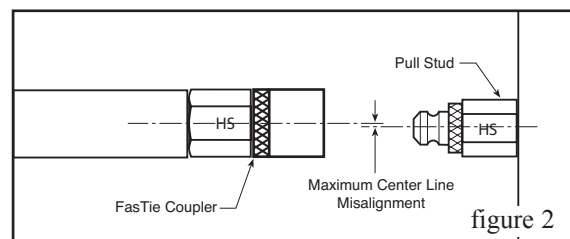

figure 2
Per figure 2, maximum center line misalignment per coupler outside diameter is as follows.
13. Maximum allowable center-to-center misalignment of coupler and pull stud is below: (see figure 2)
10. Maximum allowable center-to-center misalignment of coupler and pull stud is below: (see figure 2)
12. Maximum allowable center-to-center misalignment of coupler and pull stud is below: (see figure 2)